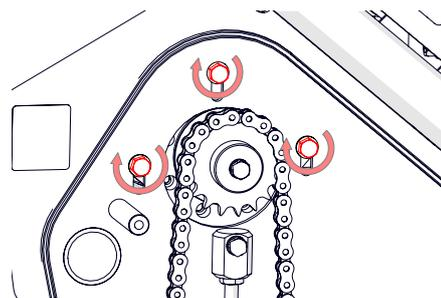

Fig. 11J - Tighten the motor 3 x top nuts.
10. Tighten the 3 x top nuts [2 x 13 mm spanner] supporting the motor (Fig. 11J).